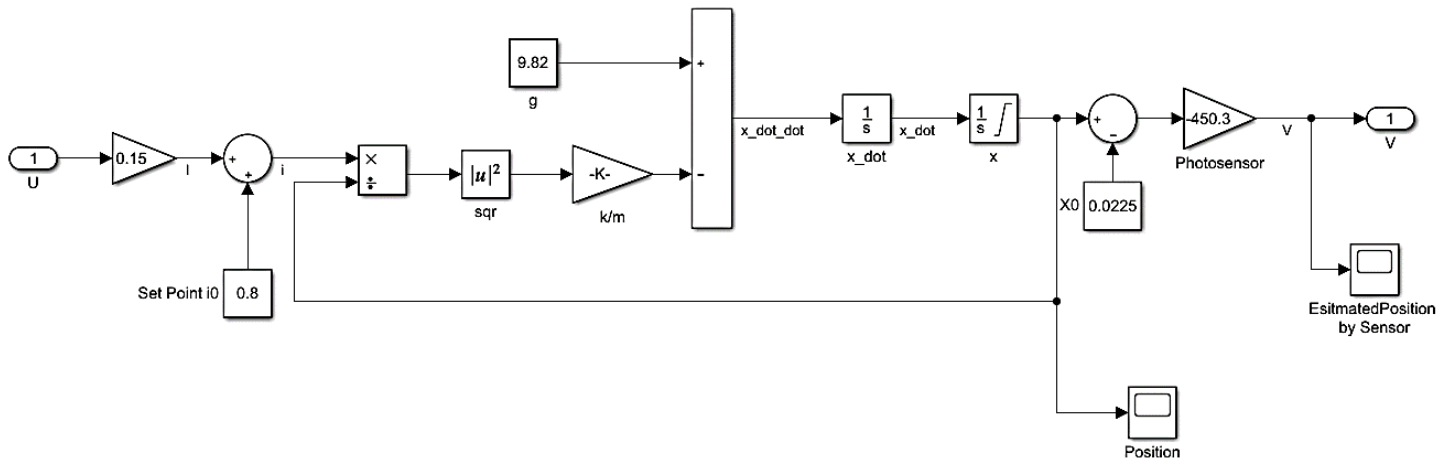

Figure 1 Simulink Model of the Magnetic Levitation System
1. Open the Simulink model of the magnetic levitation system (Figure 1).